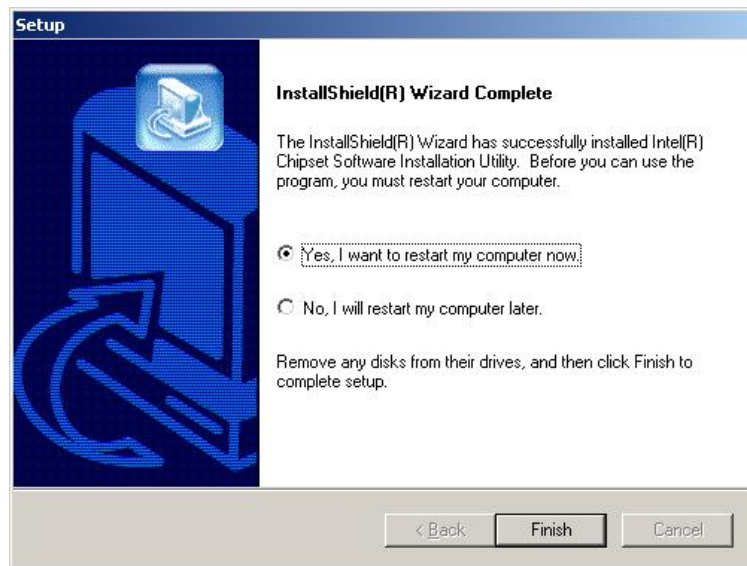

Figure 6-5: Restart the Computer
Step 6: Click “YES”. The driver is installed on the computer. After the installation is complete, the installation complete screen shown in Figure 6-5 appears. Select